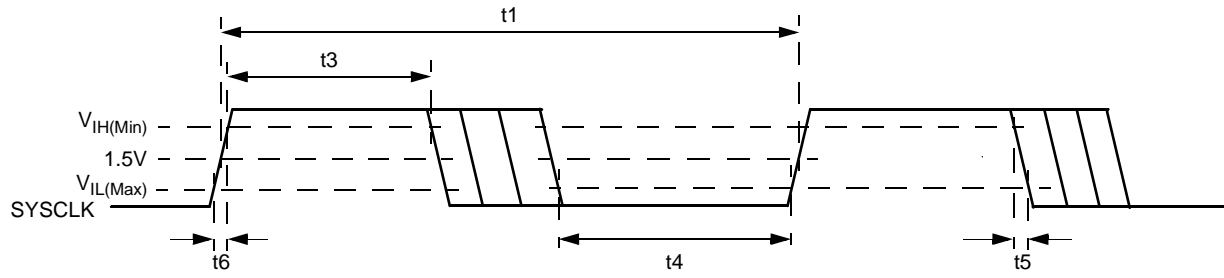

Figure 6-5. SYCLK Timing and Measurement Points
**Electrical Specifications (Continued)****Table 6-14. Clock Signals (Refer to Figures 6-5 and 6-6)**
Table 6-14. Clock Signals (Refer to Figures 6-5 and 6-6) (Continued)